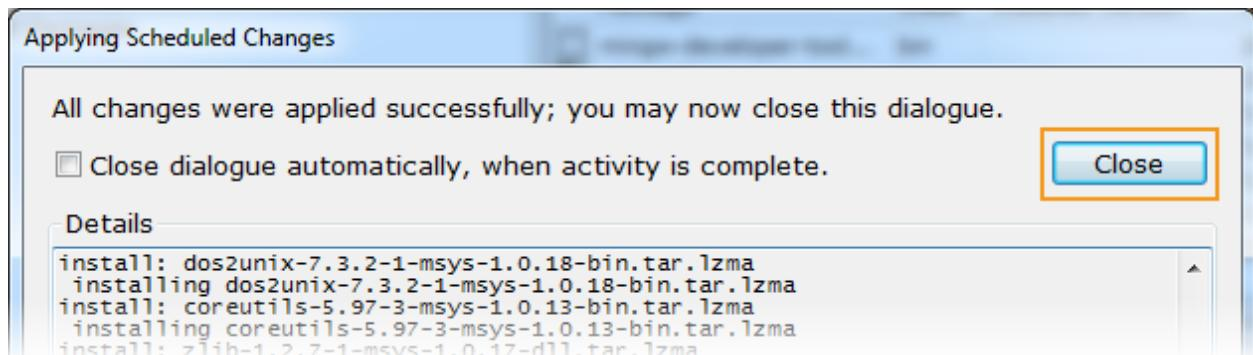

Figure 40. Applying scheduled changes
- 8) Click **Close** to close the dialog window once the operation is complete (see Figure 40).